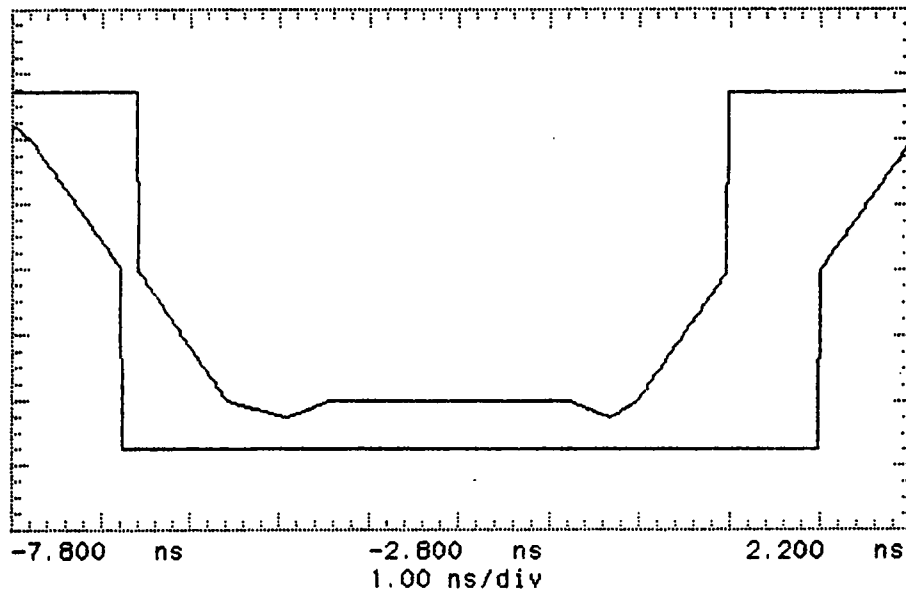

Figure 3-20. 140 Mb/s Pulse Mask All 1's
89. Press **SHIFT** **AUTOSCALE** on the oscilloscope to automatically align the pulse to the mask. Verify that the pulse falls within the mask as shown in Figure 3-20.
If your oscilloscope does not have the Mask feature, obtain a printout of the displayed pulse. Place the mask shown in Figure 3-20 over the pulse and ensure that the pulse falls within the mask (a transparent copy of the mask should be used).